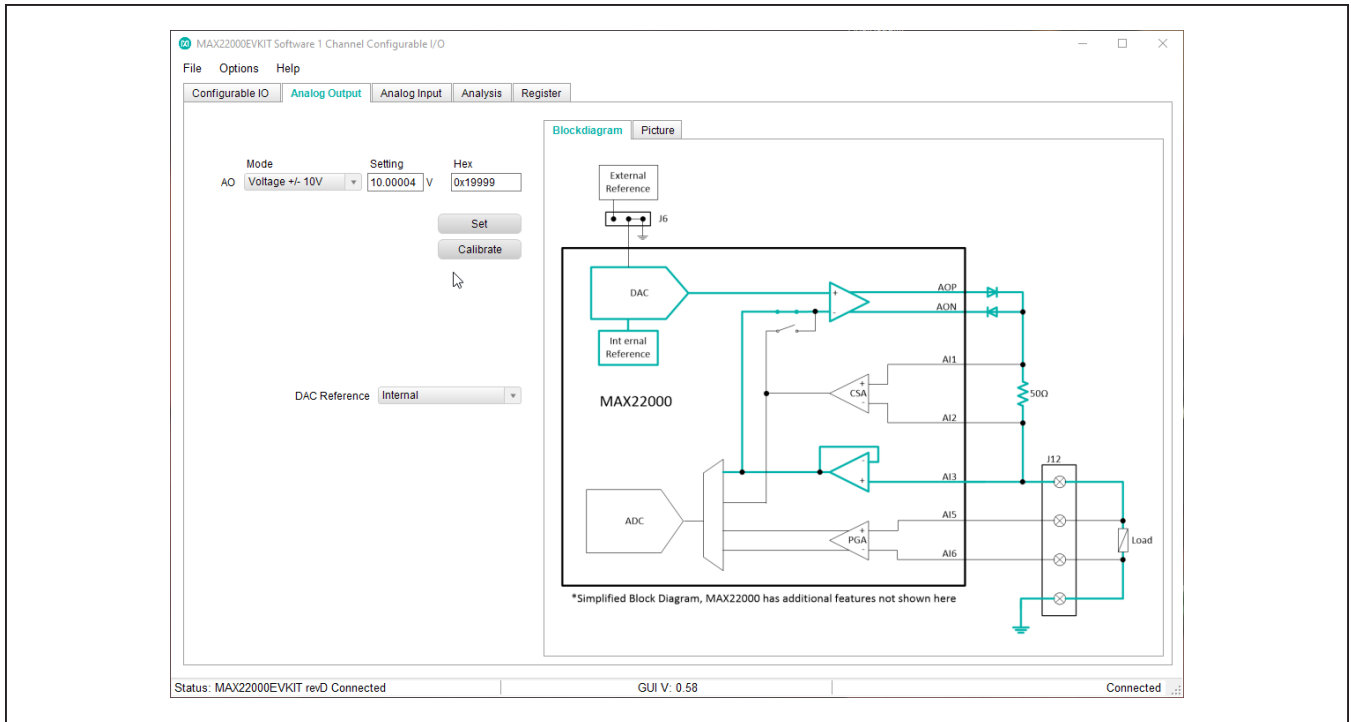

Figure 1. MAX22000 EV Kit Software, Analog Output Test
- 7) Start the EV kit software by opening its icon in the Windows **Start | Programs | Maxim Integrated** menu. The EV kit software **Configurable IO** tab appears. Select the **Analog Output** tab, as shown in Figure 1.
- 8) Verify that **Status: MAX22000EVKIT Connected** is displayed on the status bar at the bottom of the application window (Figure 1).